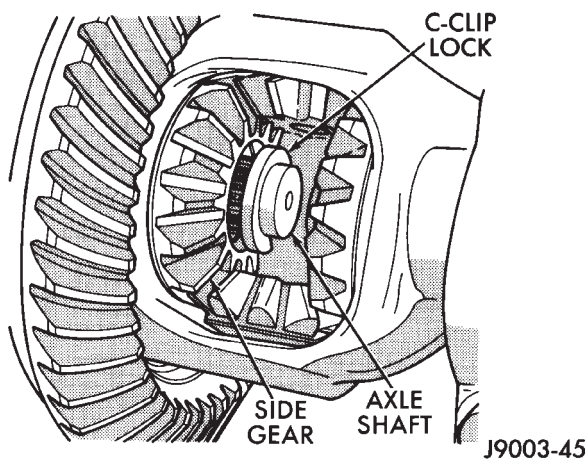

Fig. 7 Axle Shaft C-Clip Lock
- (7) Force the axle shaft in toward the center of the vehicle. Remove the axle shaft C-clip lock from the axle shaft (Fig. 7).